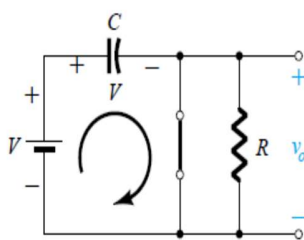

Fig: 34
- During the interval $0 \text{ } T/2$ the network will appear as shown in Fig. 34 With the diode in the “on” state effectively “shorting out” the effect of the resistor R . When the input switches to the $-V$ state the network will appear with